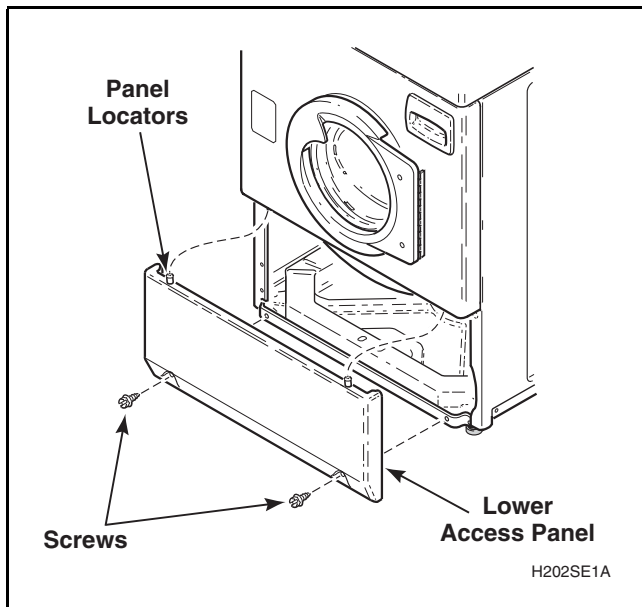

Figure 41
- While supporting the lower access panel, remove two screws from bottom edge of lower access panel. Refer to *Figure 41*.
- a. While supporting the lower access panel, remove two screws from bottom edge of panel and remove panel. Refer to *Figure 41*.
- (1) Remove control panel. Refer to *Paragraph 30* or *32*.